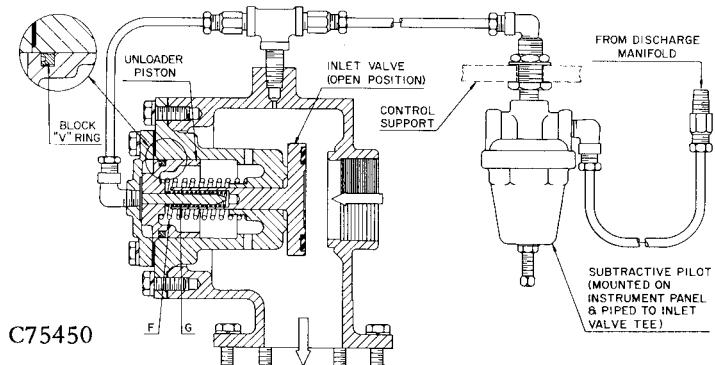

FIGURE 6-4. — INLET VALVE FOR CONSTANT SPEED CONTROL
**Inlet Valve (Figure 6-4)** — The inlet valve is a piston-actuated device which controls the compressor inlet and operates on air pressure from the subtractive pilot. The valve is closed when full pressure is on the system and changes degree of opening in direct response to system pressure changes.